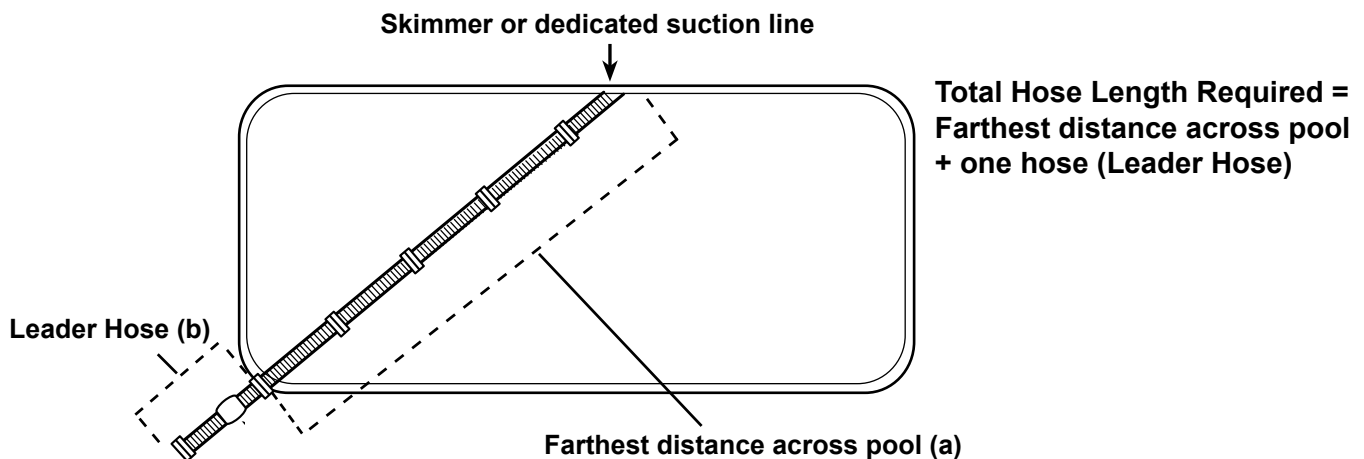

Figure 5
1. Measure enough hose to reach the farthest point of the pool from the skimmer or dedicated suction line. Remove any additional hose sections, as necessary. See (a) in Figure 5, below.
2. Next attach the leader hose at to the end where the cleaner head will be connected. See (b) in Figure 5, below. The extra length allows the cleaner to reach the far point in the pool if a loop forms while in operation.